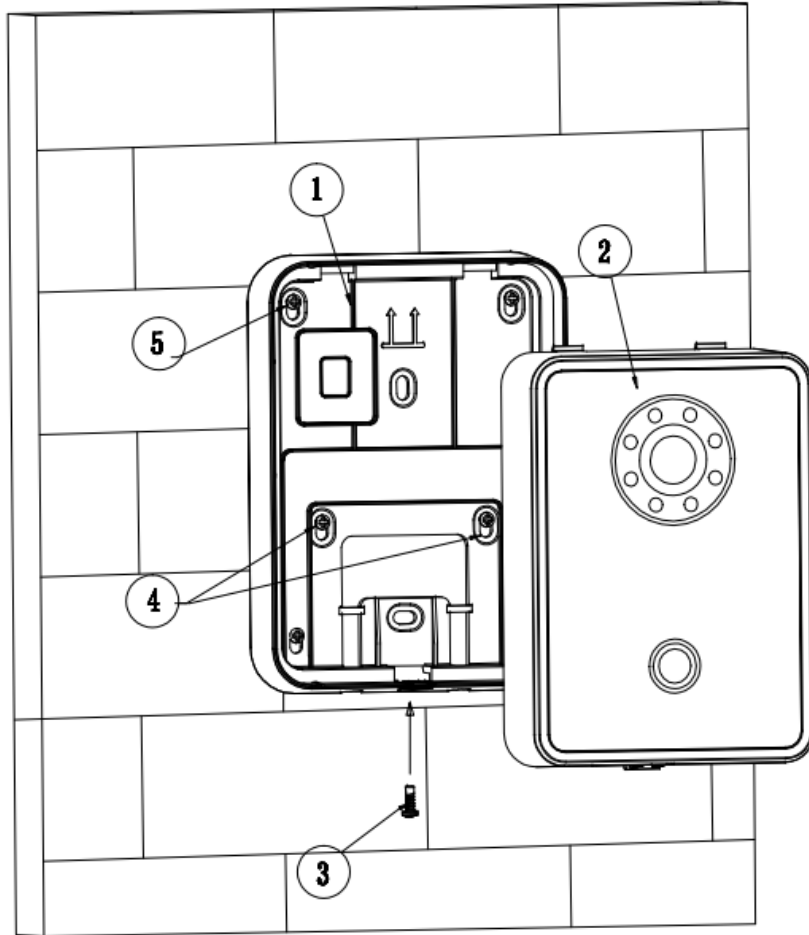

Figure 6- 1
Installation guide of VTO is illustrated in Figure 6- 1.
- a) Use the M4 screw accompanied with the VTO to fix holder onto the 86 box (as ④ in Figure 6- 1);
- b) In order to firm the VTO, use the ST4.0 screw accompanied with VTO to fix the 86 box onto wall after locking the 86 box. (as ⑤ in Figure 6- 1);
2. Install ② in Figure 6- 1 onto the holder by pushing from top edge as ① in Figure 6- 1 to lower edge as ② in Figure 6- 1.
3. After you complete the installation between VTO and holder, use the set screw accompanied as ③ in Figure 6- 1 to fix the VTO and its holder.